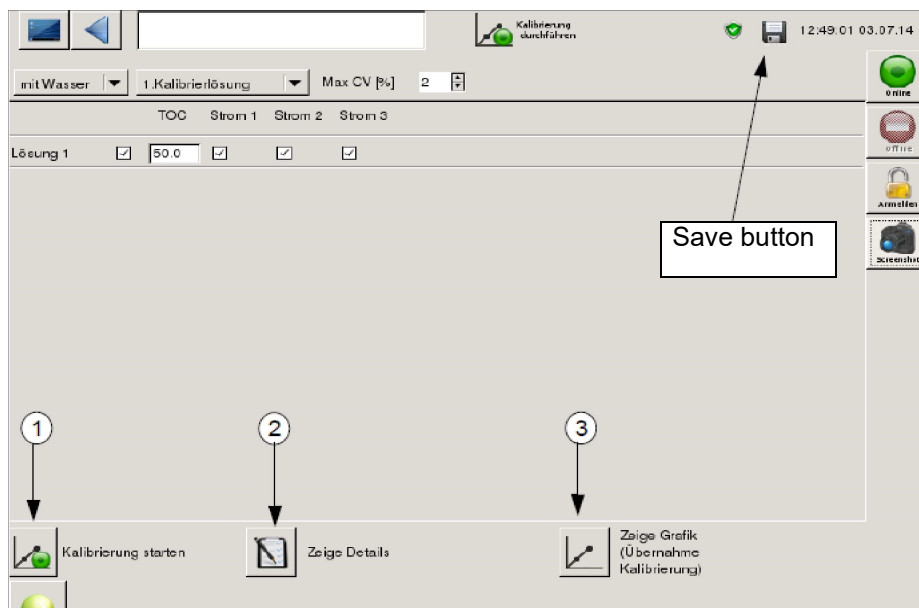

Fig. 57: Perform Calibration Screen (Example)
First, a calibration must be performed to enable this button. To view the calibration graph (Fig. 57, page 103), the "Show graph" key must be pressed. The current (blue curve) and the new calibration graph (red curve) are shown in this graph. To go back to the start of calibration, press the "Back to Start Calibration" button.
5. To accept the new calibration concentration, save it with the floppy disk symbol (Fig. 57, page 96).